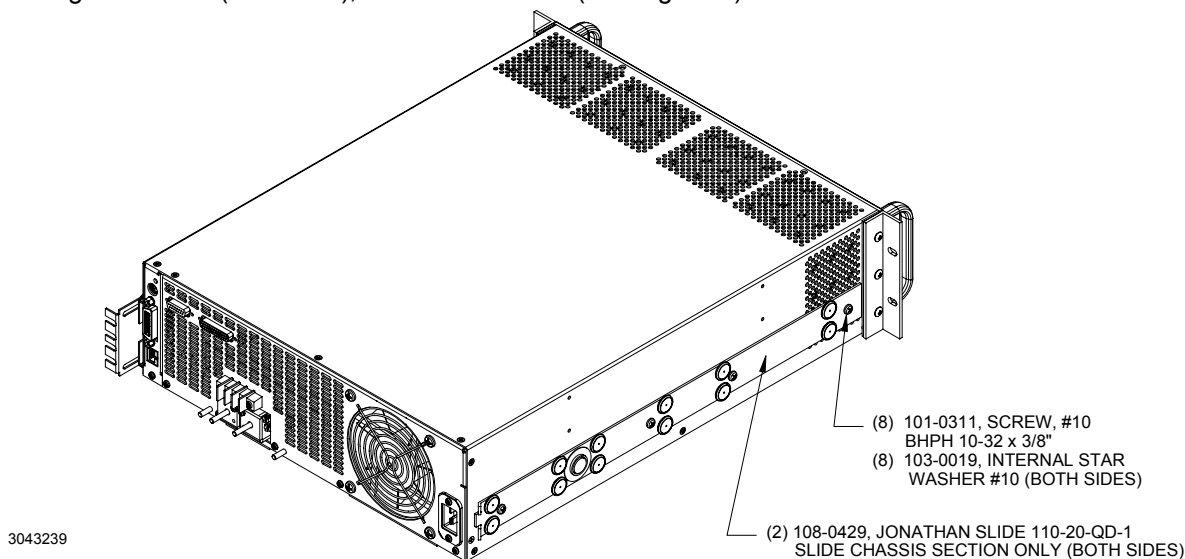

FIGURE 1. INSTALLING CHASSIS SLIDES ON RACK ADAPTER
2.2 PROCEDURE (SEE FIGURES 1, 2 AND 3.)
1. Attach two chassis sections of slide (108-0429) to each side of rack adapter using eight screws (101-0311) and eight washers (103-0019), four on each side (see Figure 1).